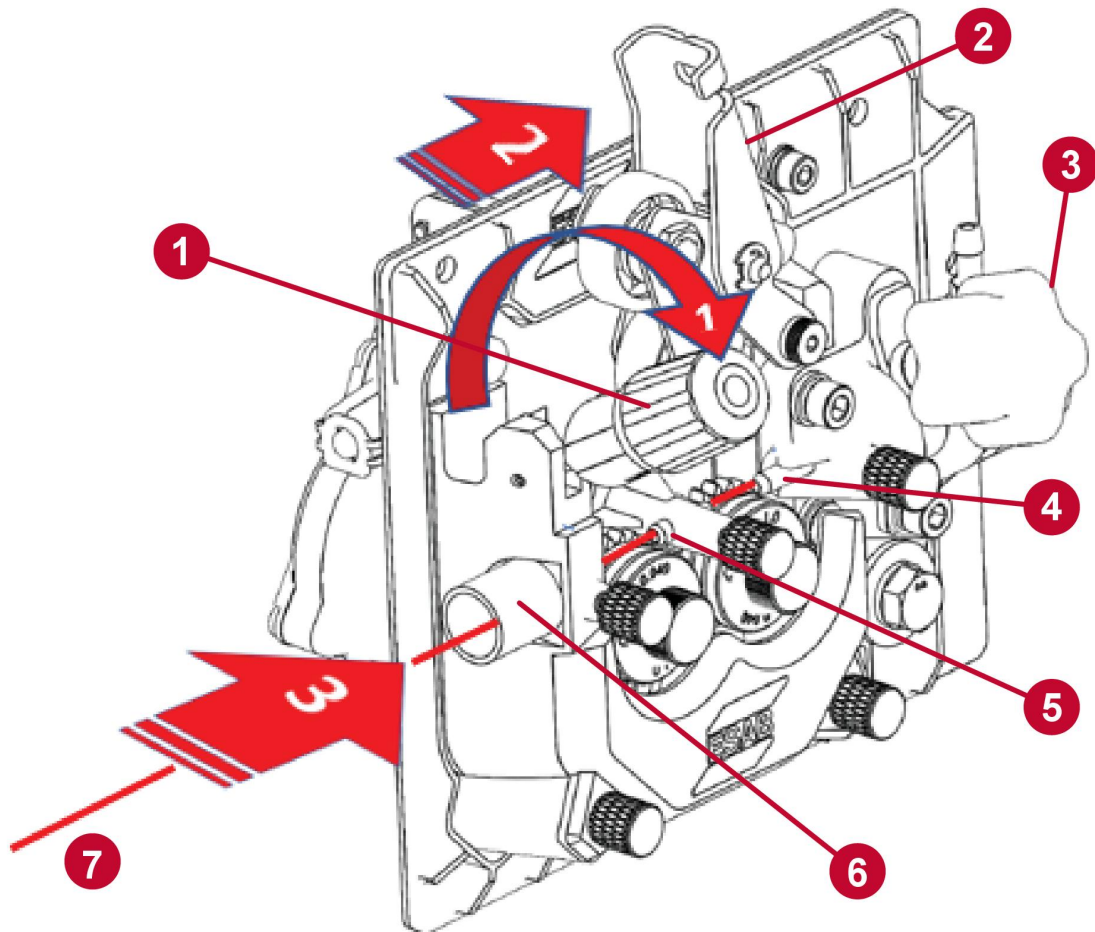

Figure 19. Wire-feed mechanism
4. Release the tensioning arm by loosening the tension knob, pulling it up out of its detent and rotating it toward you (see (1) in Figure 19).